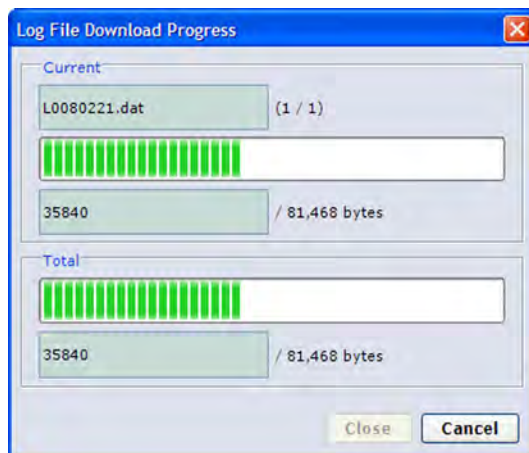

Figure 50 Log File Download Progress View
6. Start downloading the log files by selecting **Download**. A download progress dialog is displayed (see Figure 50 on page 94). If you want to cancel the download, select **Cancel**. When the files have been downloaded, you can close the download progress window and return to the main menu window by selecting **Close**. The downloaded log files are located in the folder defined in the **Log File Storage Directory** field.